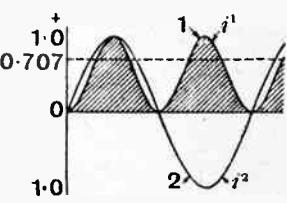

Fig. 2.—The root-mean-square (R.M.S.) value of an alternating current is $\frac{1}{\sqrt{2}}$ or 0.707 times its maximum value.
Consider a sine curve of current as shown in Fig. 2, the maximum or peak value being one ampere (curve 1). If we square all the values of the current and plot a new curve showing the relation between the square of the current and the time, we get a second curve (2), the whole of which lies above the zero line. This is the curve of i^2 . It will be seen by inspection that the mean value of this curve is exactly